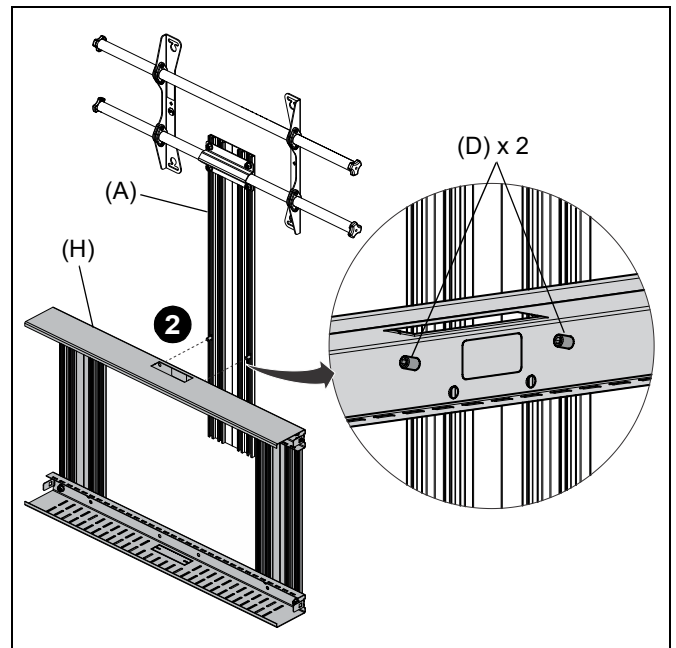

Figure 8
2. Hang the storage box (H) on the two M8 x 20mm screws (D) in the upright extrusion (A). Loosen one of the screws (D) and adjust the position of the storage box (H) until it is level. (See Figure 8)